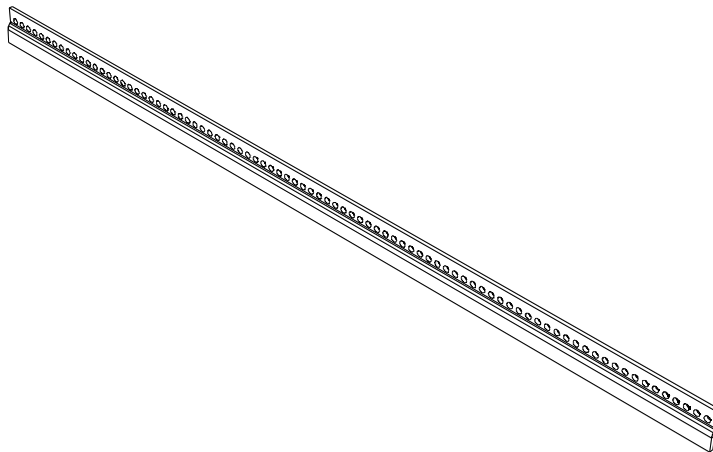

Figure 5: PCB Card Retainer Bar
4. Use a #1 Phillips-head screwdriver to remove the mounting screws/washers from the top and bottom PCB card retainer bars (see Figure 5) on the system. Keep the retainers and screws together in a safe place for replacement later.
11. Reinstall the top and bottom PCB card retainer bars (see Figure 5). Use a #1 Phillips-head screwdriver to replace the mounting screws/washers (five per bar).